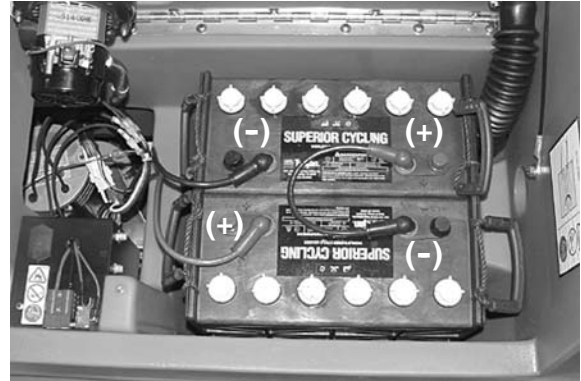

FIG. 2
3. Carefully install batteries into battery tray at bottom of compartment and arrange battery posts as shown (Figure 2).
4. Connect battery cables to battery posts as shown (RED TO POSITIVE & BLACK TO NEGATIVE) (Figure 2).